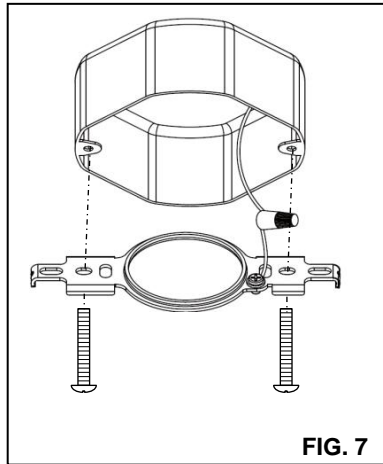

FIG. 7
1. Use wire nut to make ground wire connection between mounting bracket to existing junction box. Fasten mounting bracket to junction box. **(FIG. 7)**